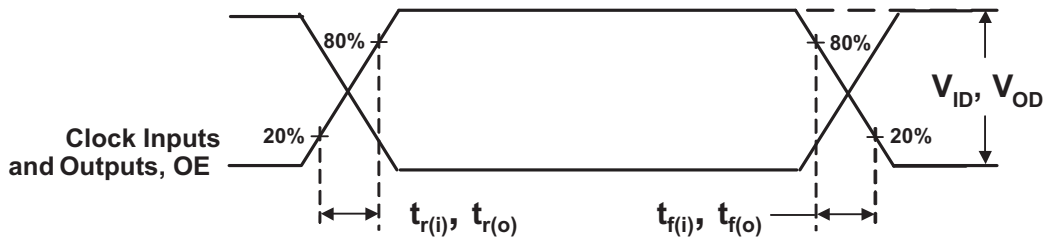

Figure 9. Input and Output Slew Rates
(1) VOD is the magnitude of the difference between the true and complimentary outputs. See Figure 9 for a definition.
(2) Total IDD = IDDQ + IADD = fCK × CPD × VDDQ, solving for CPD = (IDDQ + IADD)/(fCK × VDDQ) where fCK is the input frequency, VDDQ is the power supply, and CPD is the power dissipation capacitance.